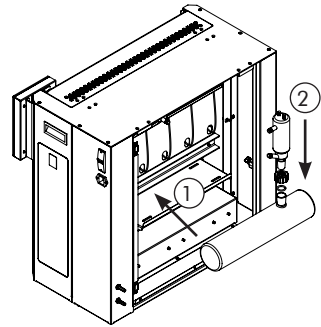

Fig. 18.2
2. Align the vacuum condenser's ground joint with that of the recovery tank and tighten its GL cap as shown in the Fig. 18.2.